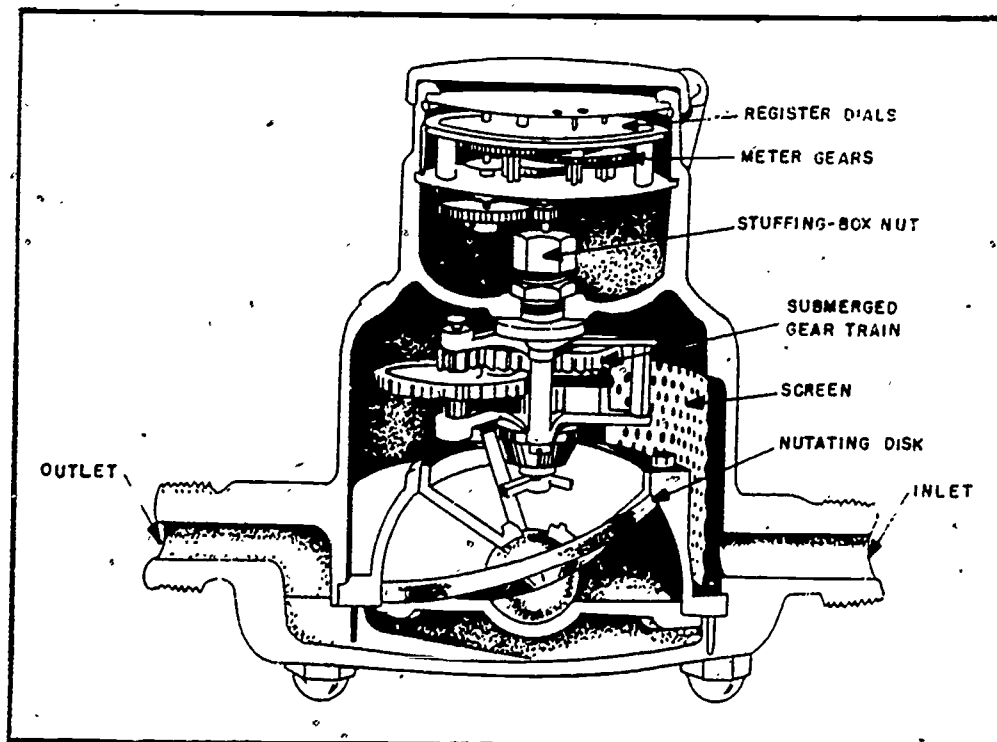

Figure 9. Nutating-Disc Water Meter
POSITIVE DISPLACEMENT. The positive displacement type meters use an "oscillating piston" or a "nutating-disc" measuring device that drives a register to "count" the number of times the measuring chambers are filled and emptied. These meters should be accurate within plus or minus 2% with changing flow rates. At high flow rates, this type meter restricts the flow of water. (See figure 9.)
2. Totalizing or integrating devices show total flow which has passed through the meter, as in a disc-type house service meter (see figure 9).